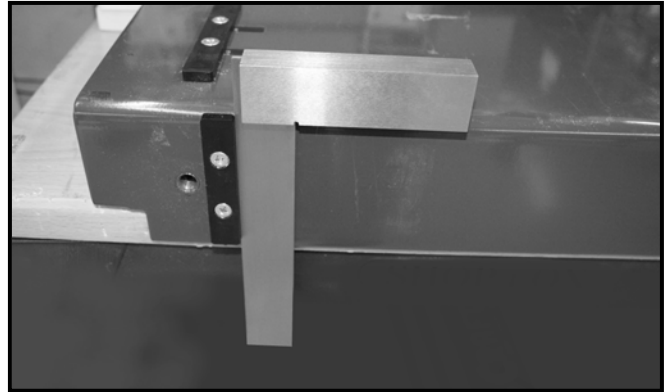

Figure-7 Shows scribing a line 1/2" from the edge of the horizontal piece
10. Scribe a line exactly 1/2" from the edge of horizontal piece. Use the technique shown in Figure-7.